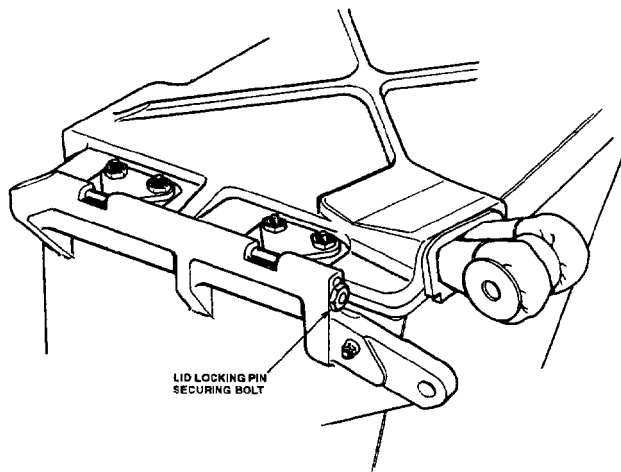

Figure 3. Removing the Lid Locking Pin Securing Bolt
c. Remove the lid locking pin securing bolt at the rear LH side of the container, save for reuse (Figure 3). (QA)